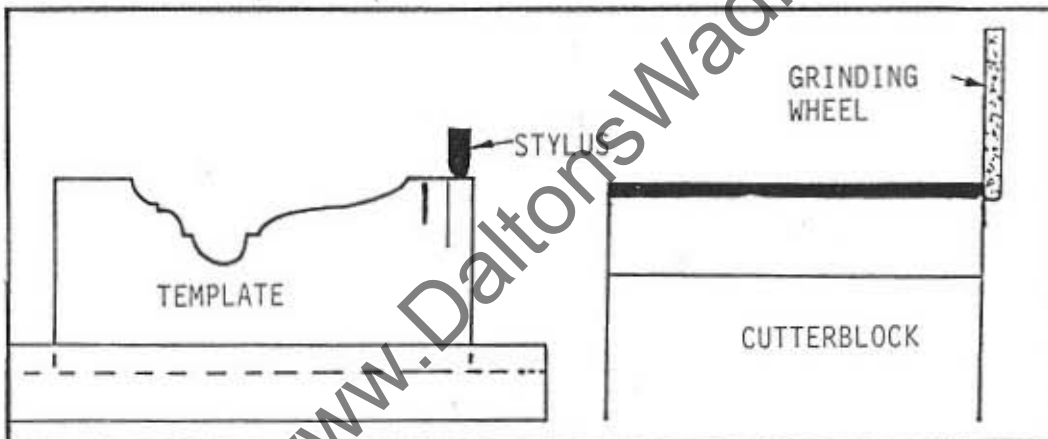
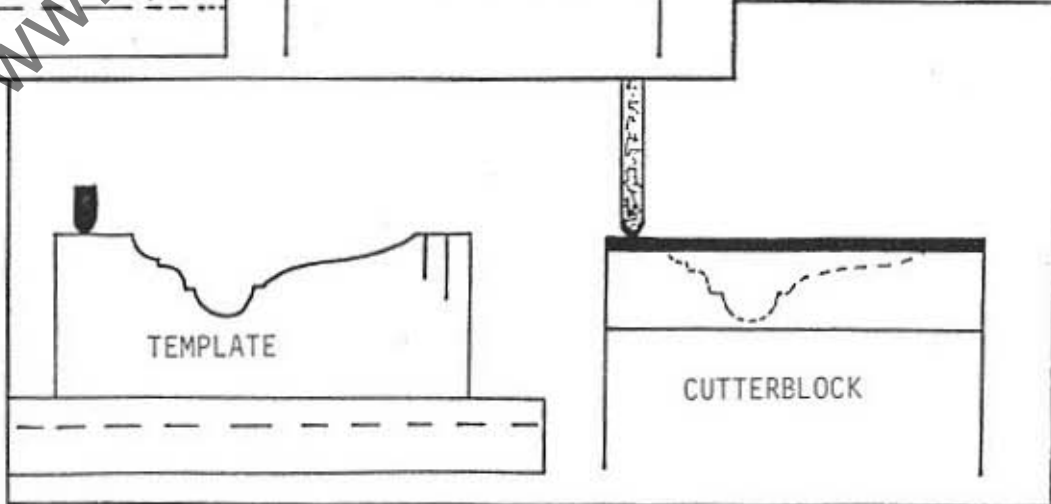

Fig.7
Fig.8
Set the stylus (19) to the vertical position using feed handwheel (20). Set the stylus to the central position width-wise using handwheel (17). Place the template in its slot and ensure that it seats properly. Position the table and shift the template so that the cutterblock end aligns with the grinding wheel when the corresponding line on the template aligns with the stylus, then secure the template in place, (Fig.7). Use handwheel (17) as the final setting to attain precise alignment. Loosen the cutterblock arbor assembly (16) and move the arbor 'in' or 'out' so that when the template and stylus are in contact the cutter touches the grinding wheel whilst resting on the cutter support (14). Secure the arbor support in this position. The feed handwheel (20) of the stylus is used to control the grinding cut. When regrinding already formed cutters use this to progressively increase the grind until all cutting edges are restored. When grinding blank cutters the arbor support is normally set at its final position, i.e. when the stylus touches the shallowest section of the template and the cutter touches the grinding wheel, (Fig.8). The initial grind is then made as a series of arc-like movements, progressively grinding deeper until the template and stylus make contact. The initial grind is virtually a free-hand movement, so take care that no side pressure is applied to the grinding wheel. When first using the machine some operators prefer instead to initially position the arbor so that there is a maximum gap of only 2-3mm between the stylus and the deepest point of the template. When this is ground away the arbor is advanced a further 2-3mm, and so on until the final depth is reached.